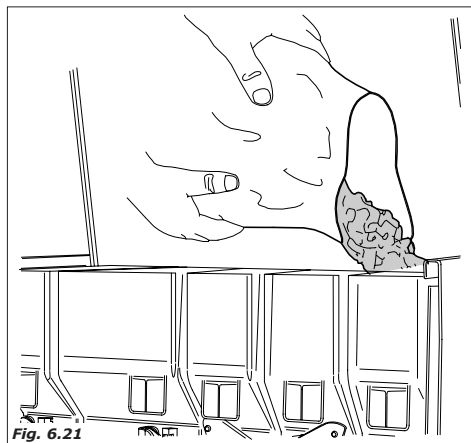
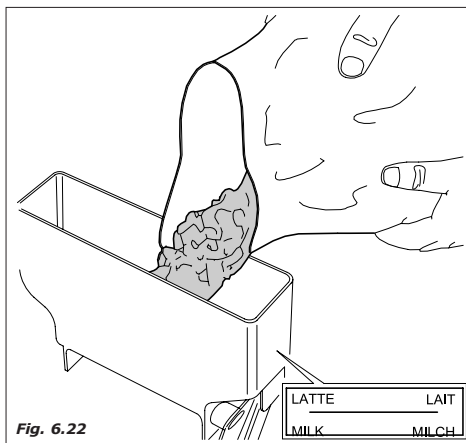

Fig. 6.21
Fig. 6.22
- remove the covers of each container and load the product according to the product indicated on the label (Fig.6.21-Fig.6.22).